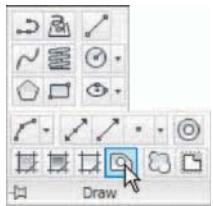

Fig. 12.10 Selecting the **Region** tool from the **Home/Draw** panel
3. Click the **Region** tool from the **Home/Draw** panel (Fig. 12.10), or select **Region** from the **Draw** drop-down menu, or from the **Draw** toolbar, or enter **reg** at the command line. The command line shows:
The first two examples of forming regions given in Figures 12.10 and 12.11 are used to show the results of using the **Extrude** tool.